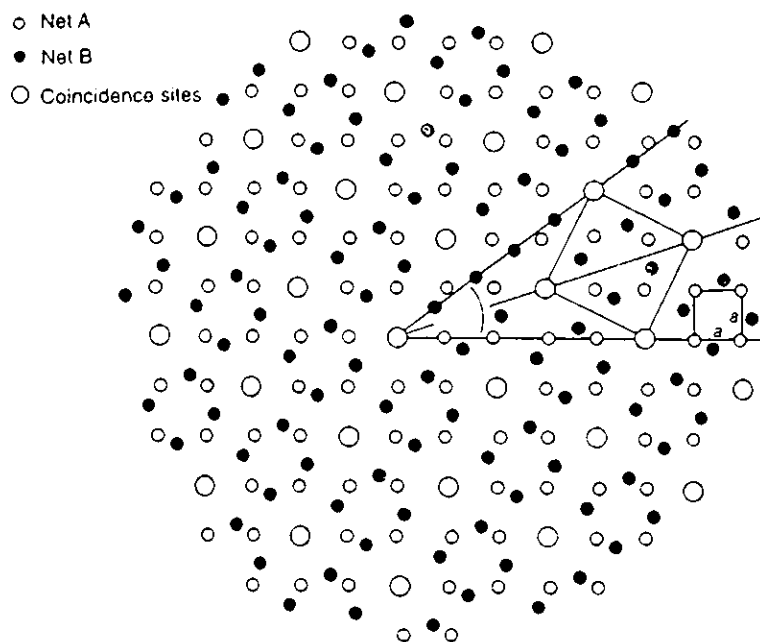

Figure 1:
- 1) Figure 1 in the appendix shows a coincidence site lattice grain boundary generated by twisting two cubic crystals on the (100) plane. The black circles represent the atoms in the bottom crystal and the small open circles correspond to the atoms in the top crystal. The large open circles represent the atoms in the CSL positions. (10 marks).